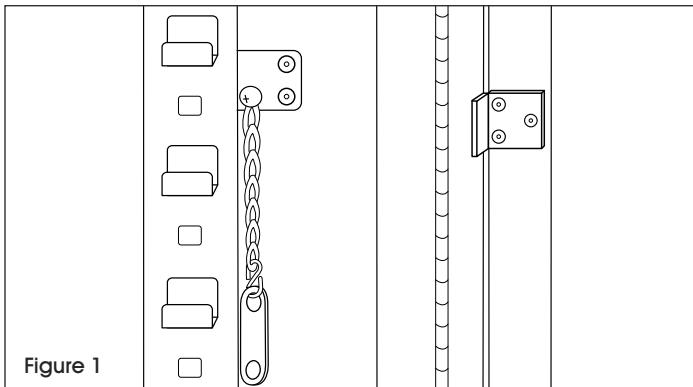

Figure 1
1. Install fusible link assembly with screw. (See Figure 1)